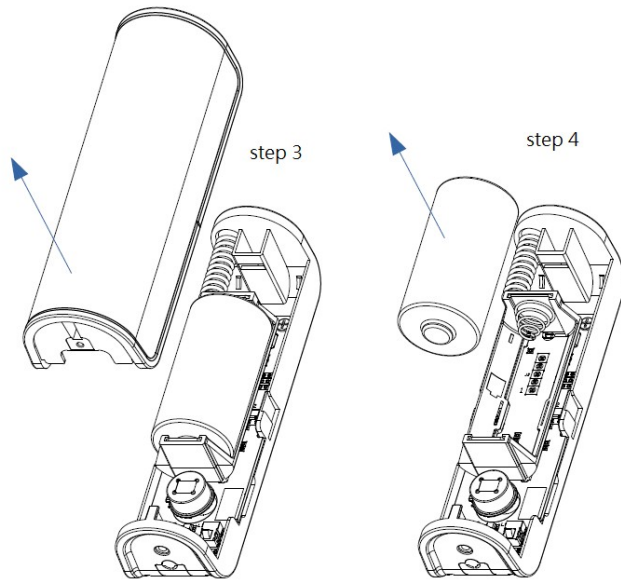

fig 1
1. In the first time, add the device into the Z-Wave™ network. First, make sure the primary controller is in the inclusion mode. And then power on the device, just take out the insulation Mylar in the back side of the device. The device will auto start the SmartStart Include mode. You will see the LED light ON one second. (refer to fig. 1)